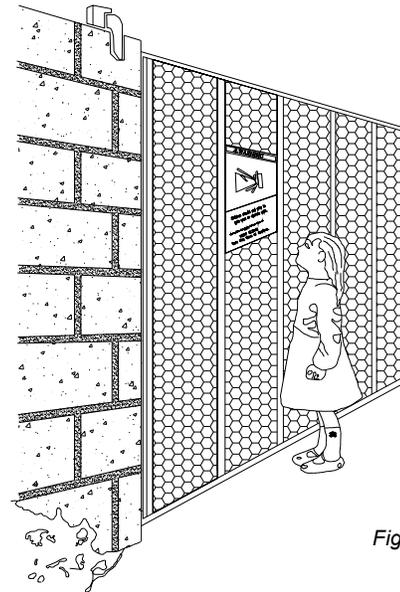

Figure 2
- For ORNAMENTAL “GRILL TYPE” GATES (or any other type of open gate where a handhold or toehold may be achieved), injuries may occur when people put arms through the openings or children “ride” the gate by standing on the bars and holding on to the gate. THIS POTENTIAL HAZARD CAN BE MINIMIZED BY INSTALLING A MESH SCREEN ON THE GATE. Allstar strongly recommends the entire gate and adjacent fence area the gate covers when open be meshed or guarded such that a handhold or toehold cannot be achieved. See Figure 2.